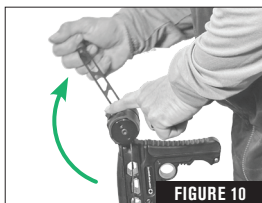

FIGURE 10
- Next apply light pressure to the crank arm (clockwise) and depress and hold the release pawl to the unlock position (Fig. 10).